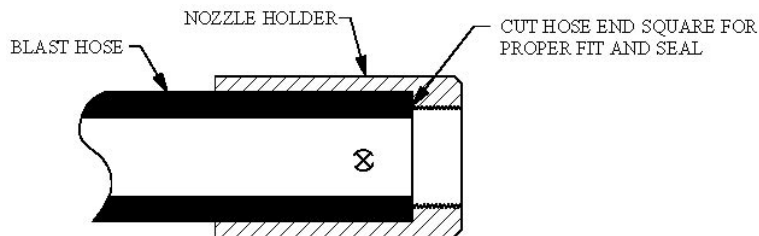

Figure 8.3 – Hose End Fit up
- 8.8. **Blast and Air Hoses:** All air hose, blast hose, and threaded couplings have gaskets that seal the connection. To prevent loss of air pressure and/or premature abrasive wear replace these gaskets when leaks are found. Inspect the couplings daily for leaks and wear. Replace gaskets when visible wear or leaks are found. When installing or replacing hose couplings cut the hose end square for secure fit (see Figure 8.3). To insure proper coupling connection always use fittings that are the same brand. See the drawings and part lists in Section 9.0.